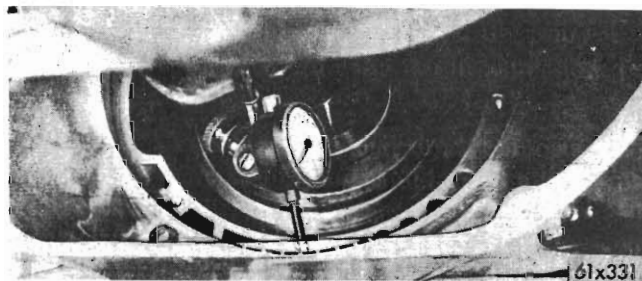

Fig. 2 - Checking transmission case (front pump bore) runout
(13) Position dial indicator plunger to the engine transmission mounting face and rotate the engine crankshaft to read any runout. (Runout should not exceed .010 inch T.L.R.).
(14) Bolt transmission case to engine, being careful not to strike indicator, when raising transmission into place. Tighten bolts to 25-30 lbs. ft. torque, adding shims, where required, between mounting surfaces to correct excess runout.
(15) Position dial plunger against bore diameter which pilots front pump assembly (see Fig. 2). Make sure plunger does not rest on chamfered edge of bore. To adjust dial and plunger, reach into case from front, below engine oil pan. Adjust dial and plunger to that plunger can travel in each direction.